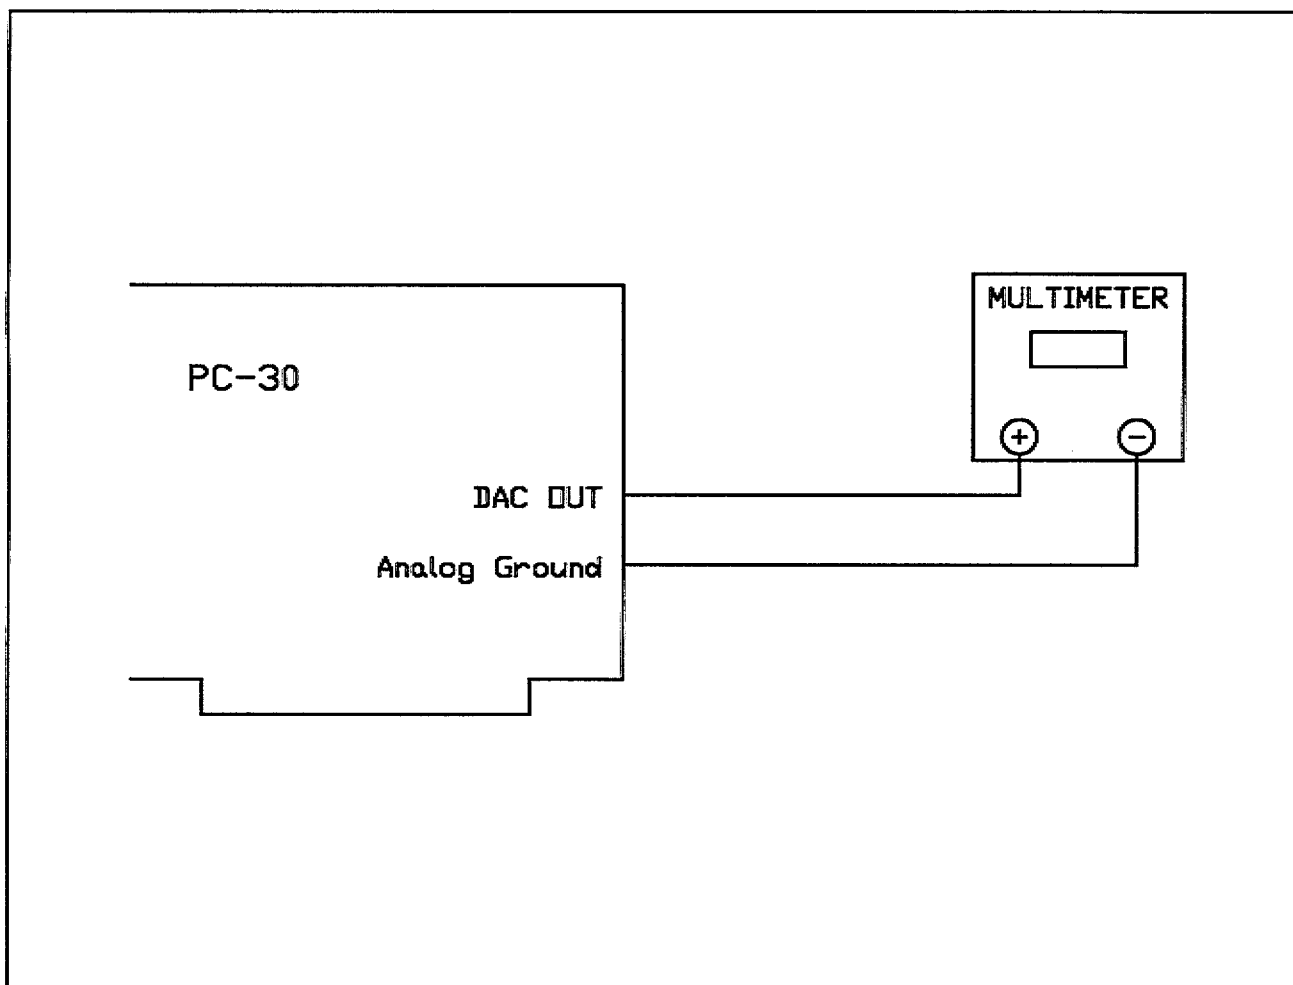

Figure 7.2. D/A calibration connections.
- i. The recommended connector wiring is shown in figure 7.2.